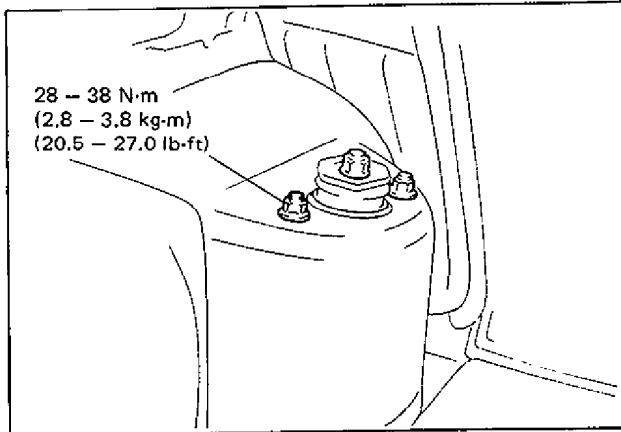

Fig. 3E-31
6) Tighten wheel nuts to specified torque (Refer to Fig. 3E-53).